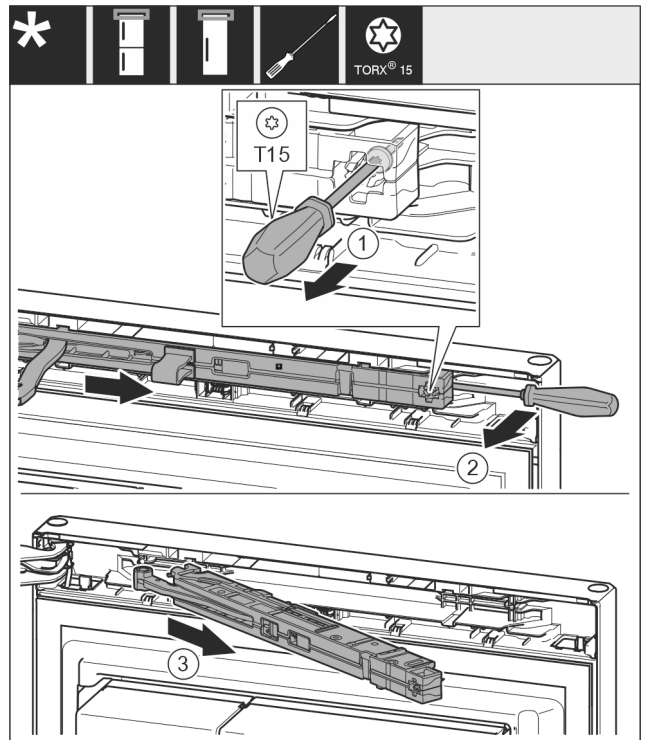

Fig. 11
- ▶ Undo the soft stop mechanism screw with a T15 screwdriver approx. 14 mm. Fig. 11 (1)
- ▶ Insert a screwdriver behind the soft stop mechanism on the handle side and rotate the unit forwards. Fig. 11 (2)
- ▶ Remove the soft stop mechanism. Fig. 11 (3)